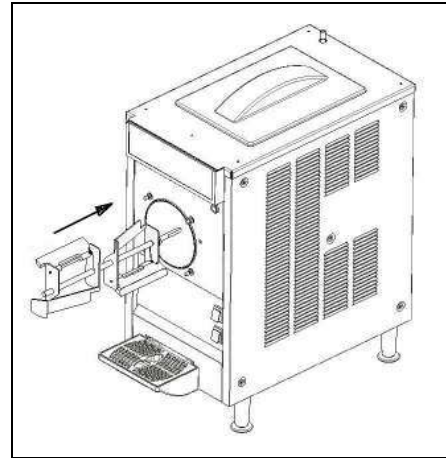

Fig. 21
- Insert the beater carefully into the cylinder making sure that the rear shank fits perfectly in its seat within the cylinder (fig. 21).